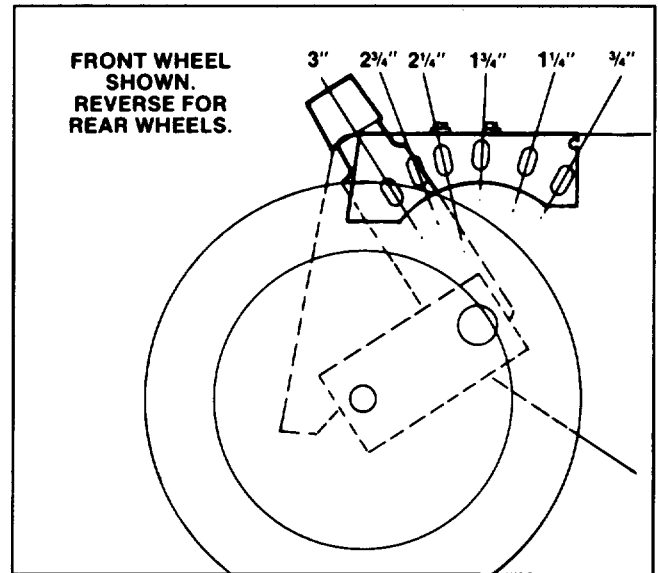

Figure 8
ADJUSTING HEIGHT-OF-CUT (Fig. 8)
1. Stop engine and pull wire off spark plug (Fig. 8).